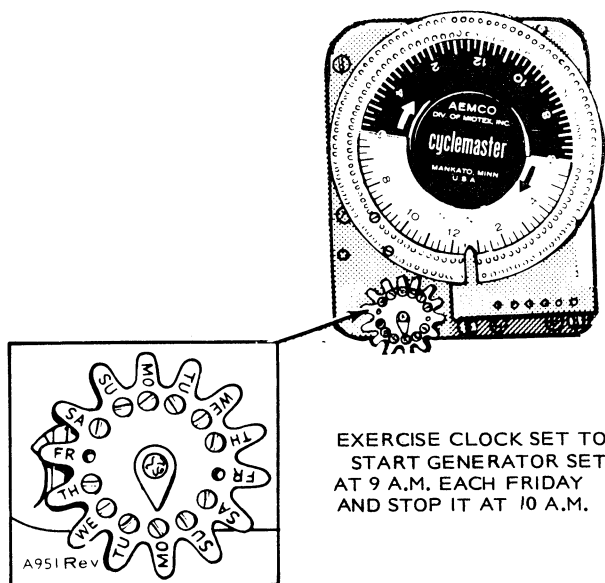

FIGURE 20. EXERCISER CLOCK
3. Install a trip pin (left-hand thread) in the inside row of holes on the large dial for the time of day you want the generator set to start. See Figure 20.